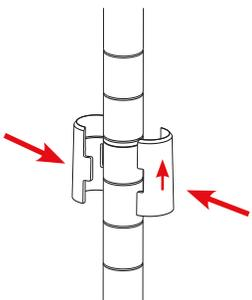
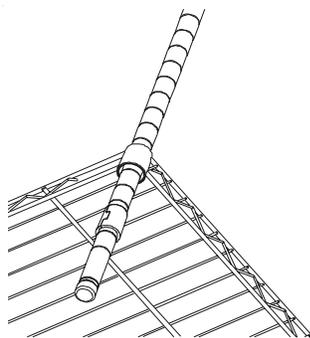
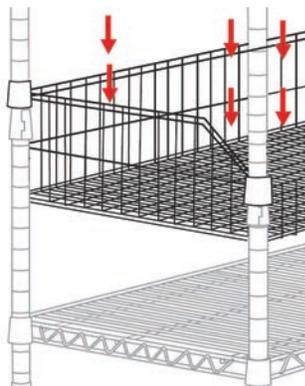

Fig. 12
Fig. 13
Fig. 14
Refer to location of numbers on posts, snap tapered split sleeves (Fig. 12) on each post at the desired position for bottom shelf. The thickest part of the tapered split sleeve goes to the bottom side of post. Be sure that the split sleeves have been seated properly in the groove. Using one (1) of the two (2) LQS Flat Wire shelves (refer to location numbers on posts) and work your way up. Install bottom shelf by sliding over the posts (Fig. 13). Tap very lightly with a nylon or rubber base hammer to seat the basket shelf on the split sleeves (Fig. 14).